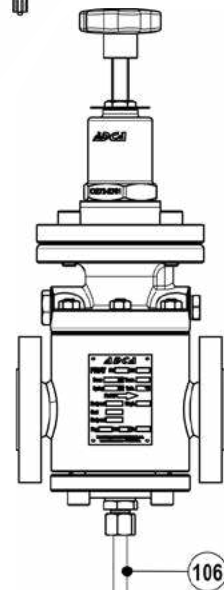

Fig. 6
* Optional drain connection for steam trapping. This drain connection does not replace the humidity separator, but can be useful if, e.g., the valve stops operating for long periods of time (see Fig.6).
PRV47 with drain connection (Fig. 6)